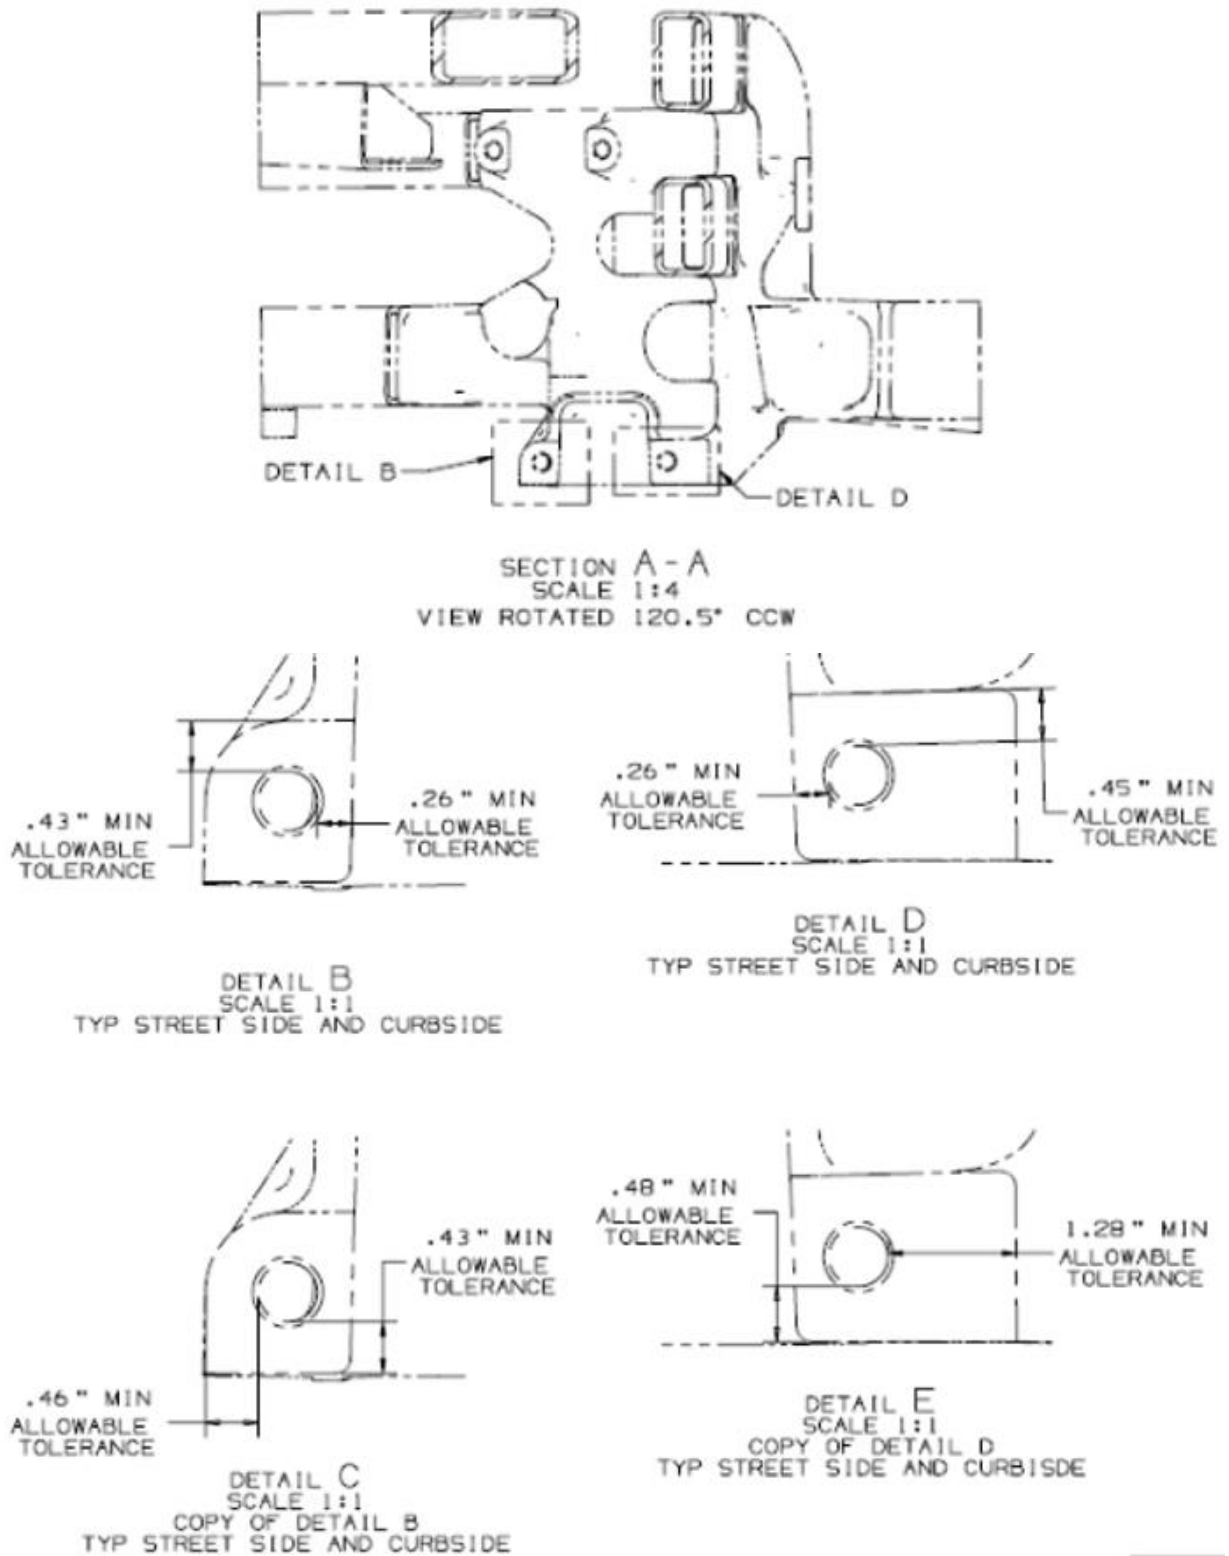

Figure 2: Allowable Wall Thickness
- Grind the weld flat to meet the allowable wall thickness as shown in Figure 2.